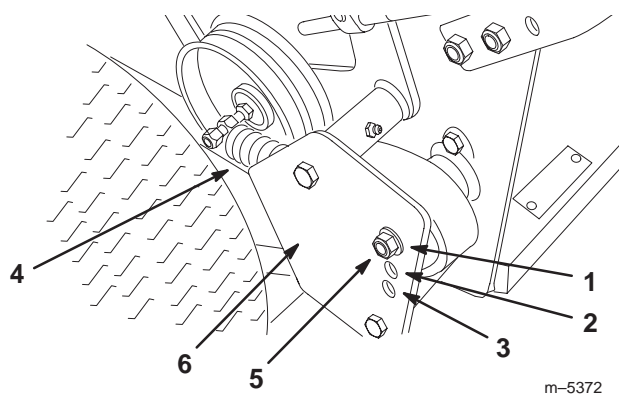

Figure 16
4. Remove the drive spring from the adjustment bolt (Fig. 16).
5. Remove the locknut that secures the adjustment bolt to the drive pulley shield (Fig. 16).
Note: The wheel drive tension is lowest when the bolt assembly is in Position A. The tension increases in Positions B and C (Fig. 16).